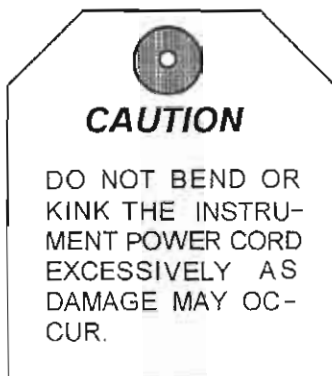

Figure 1-14. Caution tag (low and high speed handpiece).
(6) A caution tag (tied to the low speed handpiece cable and the high speed handpiece cable) is depicted in figure 1-14.